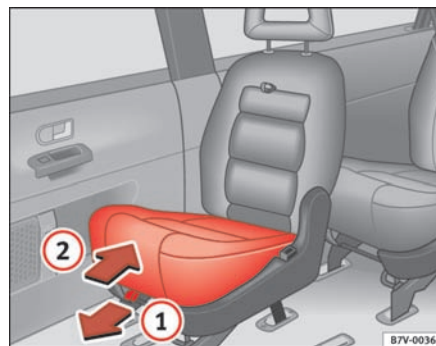

Fig. 41 Using the integrated child seat
- Pull the loop to the front in the direction of the arrow ⇒ **fig. 41**
- Push the seat cushion in direction of the arrow ② until it engages in position.